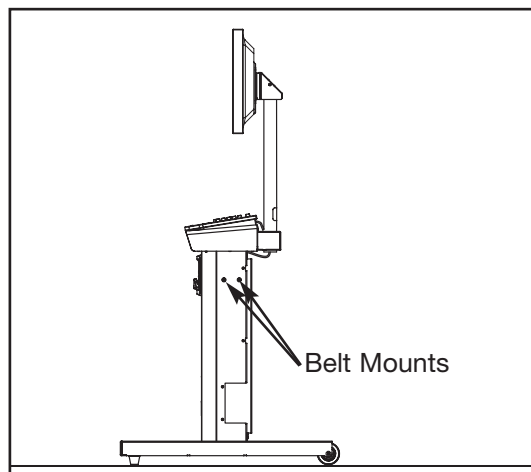

Figure 4
7. When finished remove beacon from belt and snap belt onto belt mounts on right side of cabinet. See Figure 4.